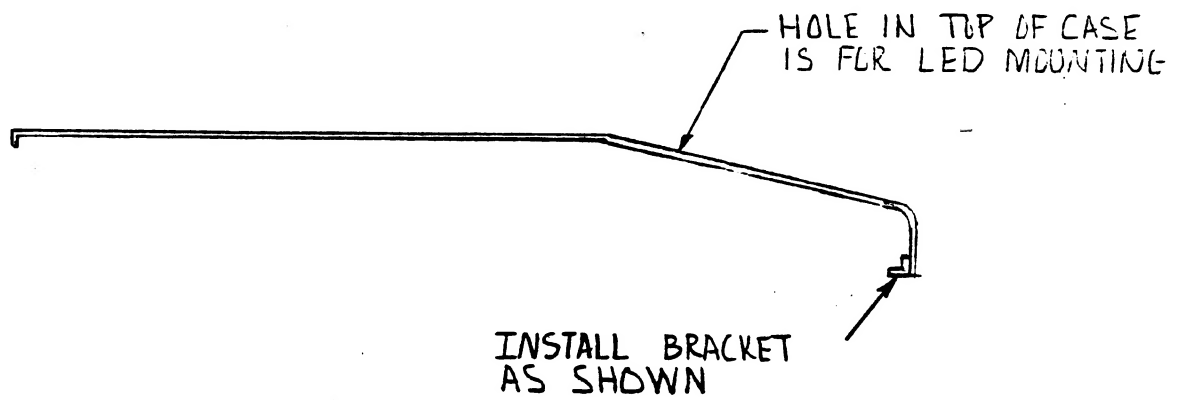

FIGURE 2
- Step 2 - Install the remaining support bracket on the Top Panel under the Keyboard cutout as shown in figure 2 using #6-32 nuts and lockwashers.